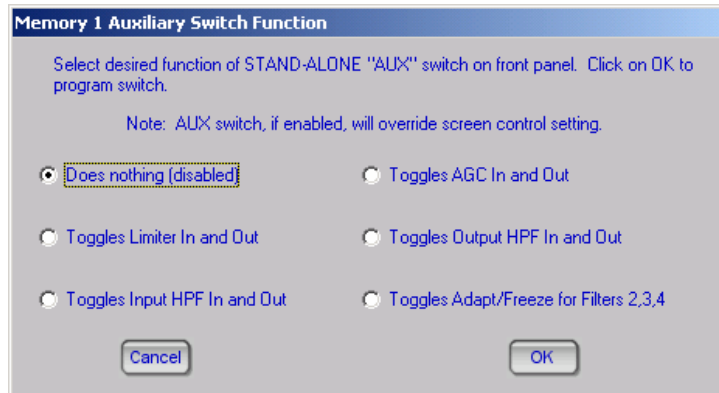

Figure 4-84 Auxiliary Switch Function Window
3. Click on the selected memory. The following window (Figure 4-84) will now appear: